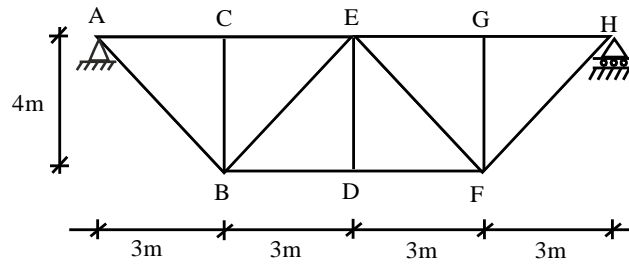

Fig. 4
4. For the deck type of truss as shown in fig. 4) Draw ILD for